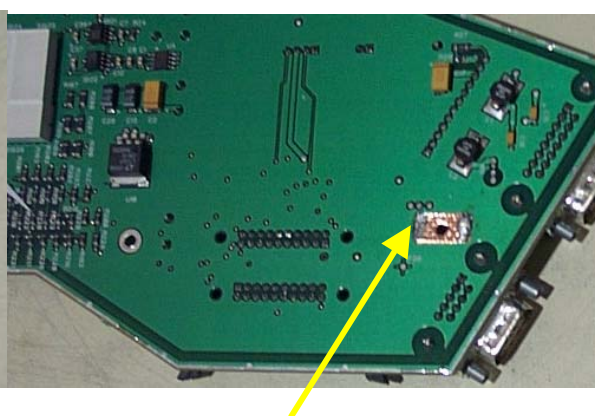

Figure 5. Apply Solder to Fasten Copper Tape to Board
9. Refer to Figure 5. Apply solder to the copper tape to fasten it to the display board.